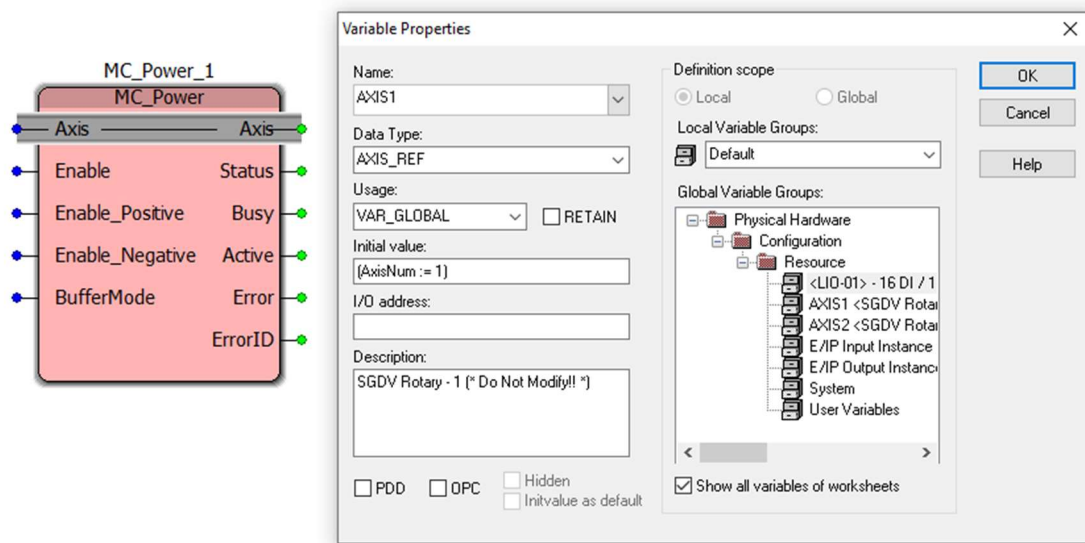
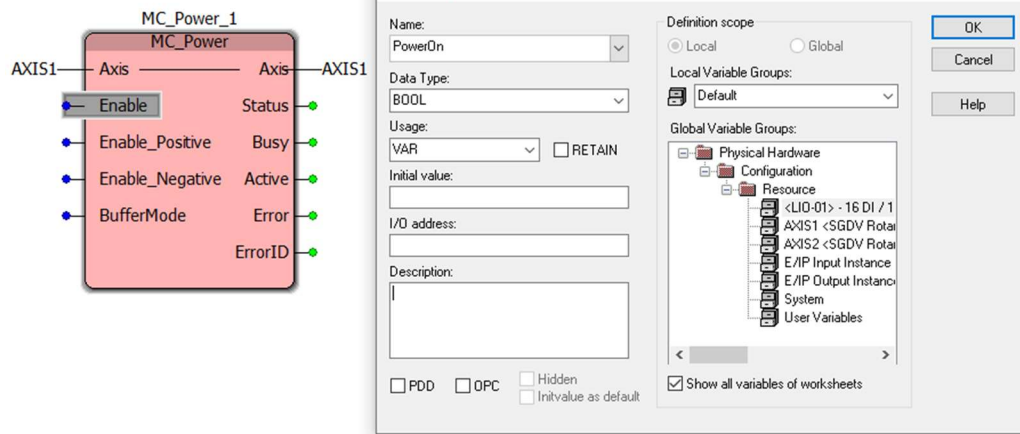

Figure 4: MC_Power Axis Properties
Figure 5: MC_Power Enable Properties
- Double-click 'Axis' on the MC_Power block and configure its variable properties so that it matches with Figure 4 and repeat for 'Enable' in Figure 5